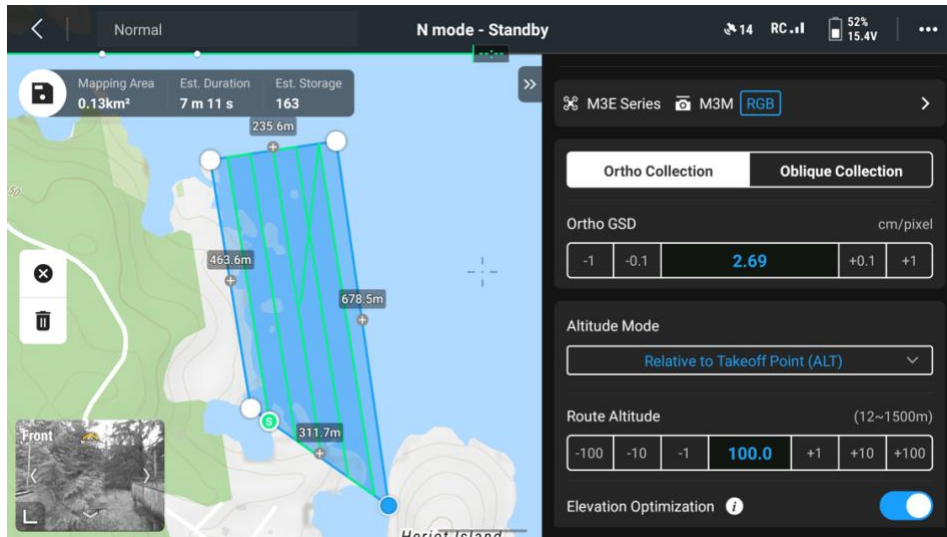

Figure 1: DJI Pilot 2 – Flight Route building tool.
5. Follow the directions on the map to draw a polygon covering the area you want to survey (Figure 1).